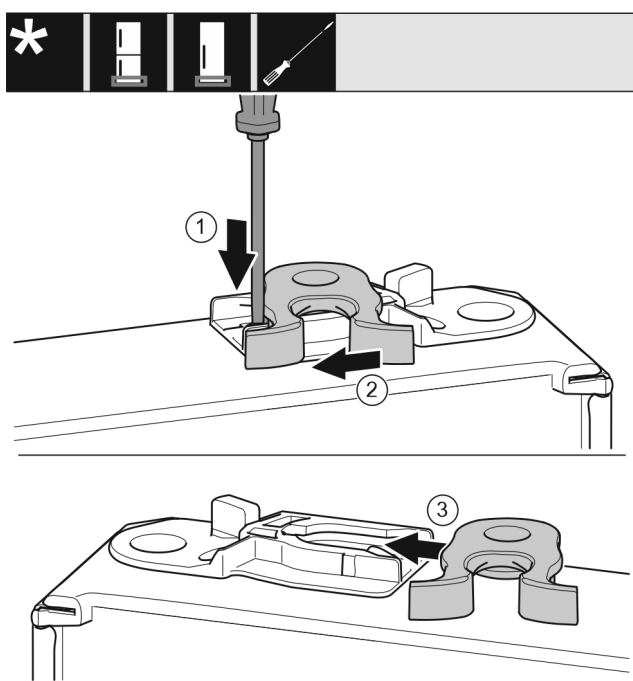

Fig. 17
- Push the lug downwards with a slotted screwdriver. *Fig. 17 (1)*
- Pull the door latch out of the guide. *Fig. 17 (2)*
- Push the door latch into the guide on the other side. *Fig. 17 (3)*